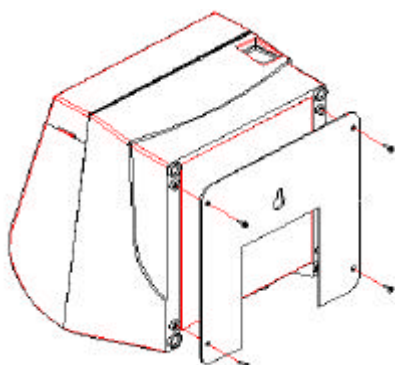

Figure 1
- 1) Fix the wall mounting plate (optional) at the base of printer with 4 screws: see figure 1.